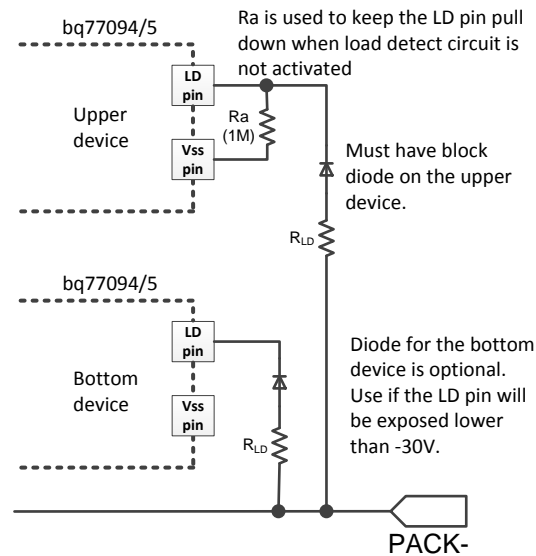

Figure 25. Simplified Circuit: LD Connection On Upper Device When Using For UV Fault Recovery
- If load removal is not used for UV recovery, connect the upper device LD pin to its AVSS pin shown in Figure 17 and Figure 18. Otherwise, refer to Figure 25 for proper LD connection.
To assure load removal is detected properly during UV fault, TI recommends to use 3.3 MΩ for RGS\_CHG (instead of a typical of 1 MΩ when load removal is NOT required for UV recovery). RCHG can stay in 1 MΩ as recommended when using CHG FET protection components. The CHG FET rise time impact is minimized as described in the “Protecting CHG FET” section. On a stacked configuration, connect the LD pin as shown in Figure 25 if load removal is used for UV fault recovery. If load detection is not required for UV fault recovery, a larger value of RGS\_CHG can be used (that is, 10 MΩ) and there LD pin on the upper devices can be left floating.